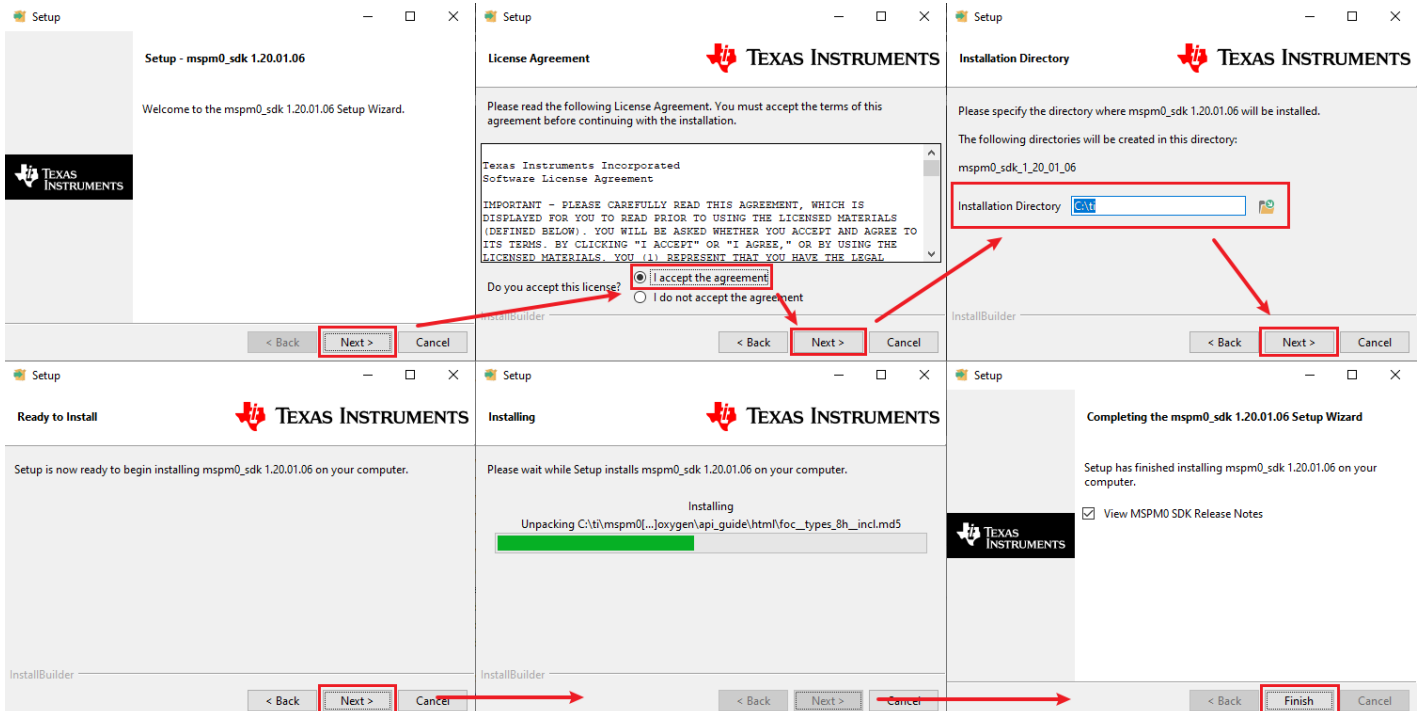

Figure 3-4. MSPM0-SDK Install Step-by-Step
3. After downloading, follow the steps in Figure 3-4 to finish installation.